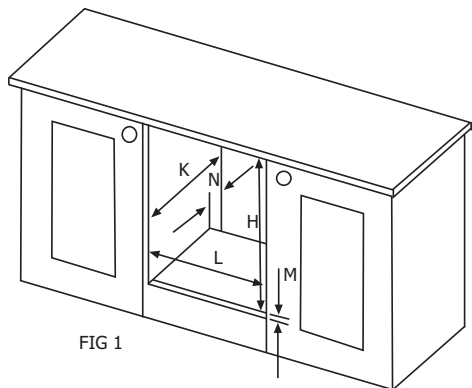

FIG 1
**Refer to FIG.1 for the dimensional requirements.**
The appliance is designed to fit into a standard 600mm wide housing unit, with minimum internal dimensions as shown in FIG.1 of the installation dimensions.